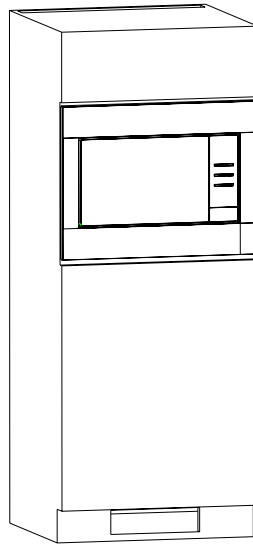

Fig 6
e) Final assembly as shown in Fig.6.